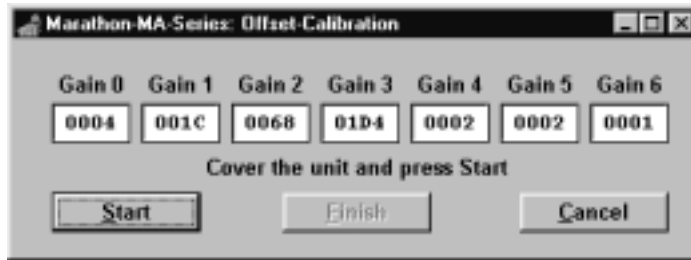

Figure D-6: Offset Calibration Screen
2. When the Offset Calibration screen displays (Figure D-6), click on the Start button and follow the onscreen directions. Click on the Finish button when done.